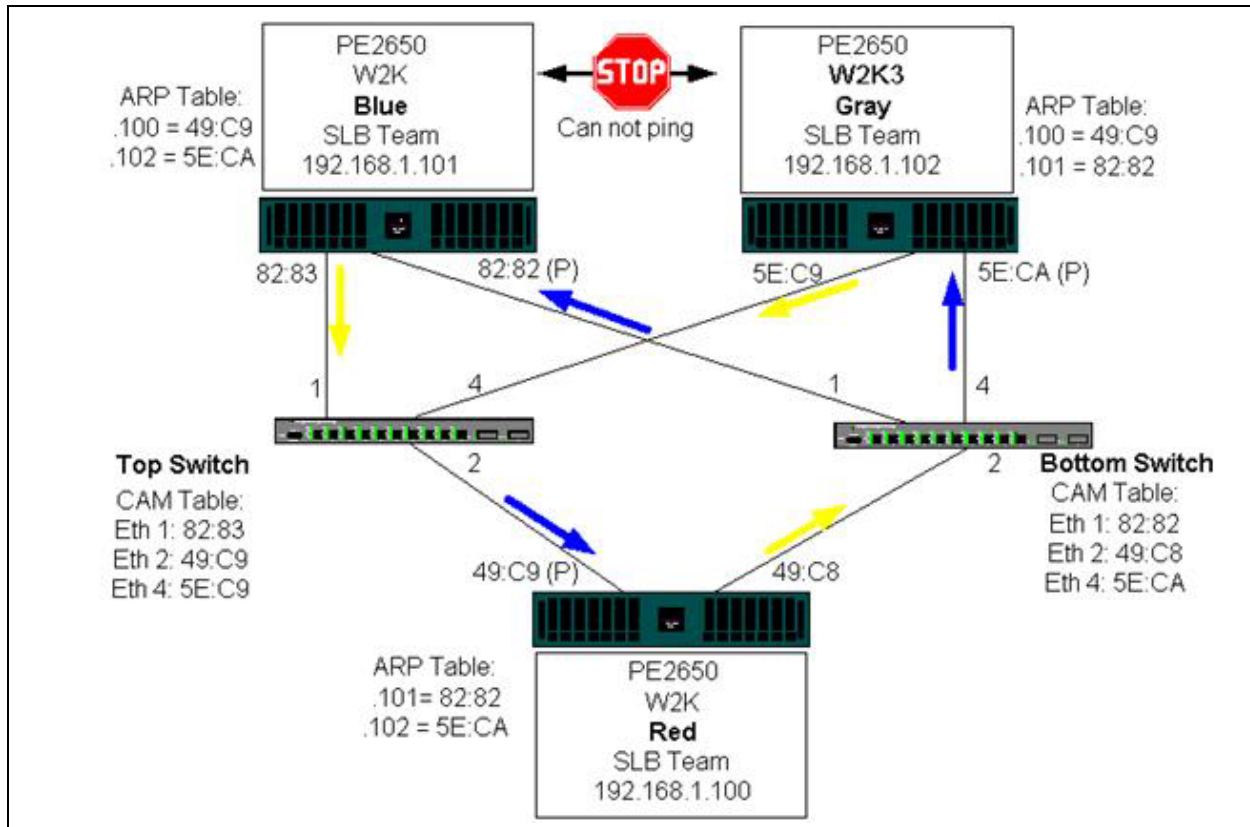

Figure 12-3. Teaming Across Switches Without an Inter-Switch Link
- Figure 12-3 is a setup without the interconnect cable in place between the two switches.